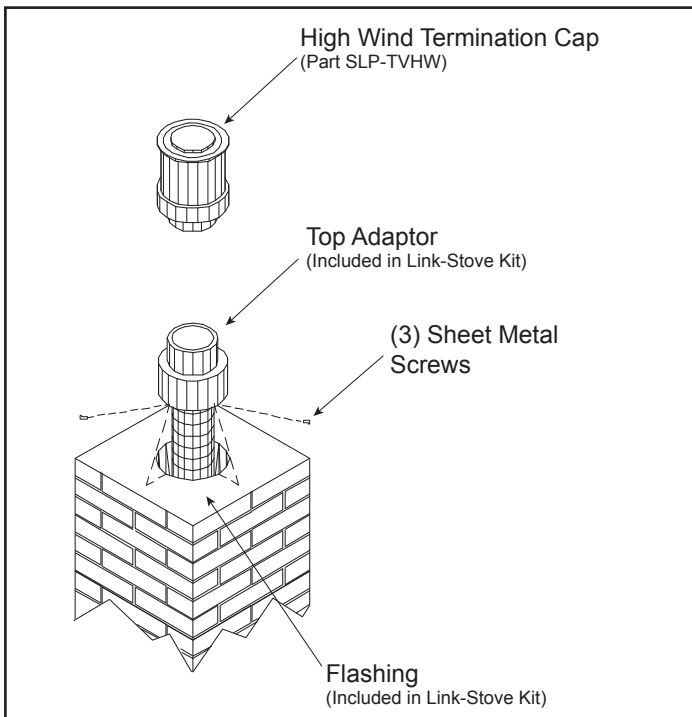

Figure 4.21
8. Secure the top adapter to the flashing. Use three sheet metal screws through the side of the top adapter into the flange on the flashing See Figure 4.21. Twist lock the high wind termination cap on to the top adapter.